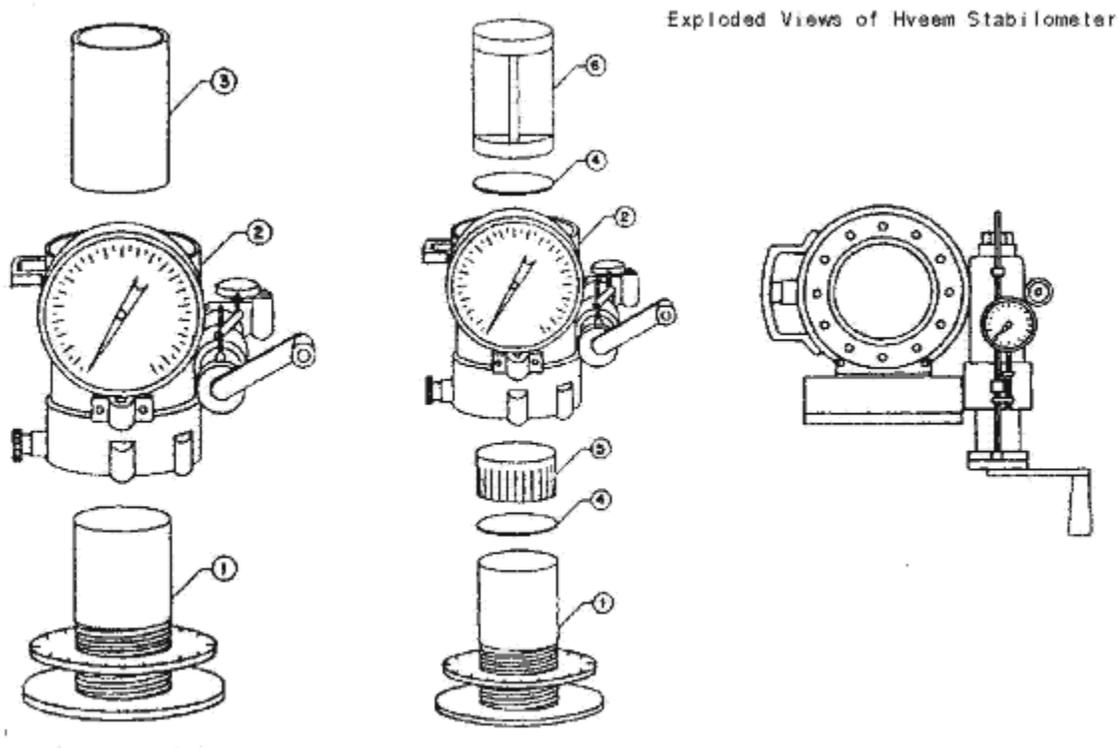

Figure 1—Hveem Stabilometer
- 3.1 *Hveem stabilometer*, with adjustable stage. (See Figure 1.) It consists of a cylindrical metal shell and flexible rubber diaphragm, which serves as a cell for the hydraulic fluid. It also includes a pressure gauge, a screw-type hand pump assembly, and an air chamber